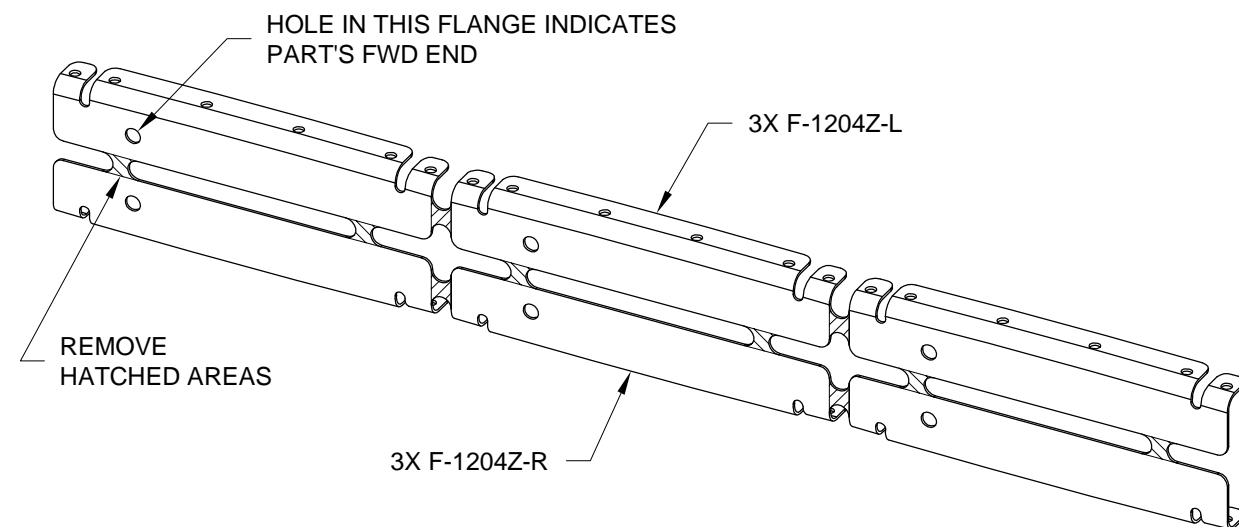

FIGURE 2: SEPARATING F-1204Z
Step 4: Separate F-1204Z by removing the hatched areas shown in Figure 2.